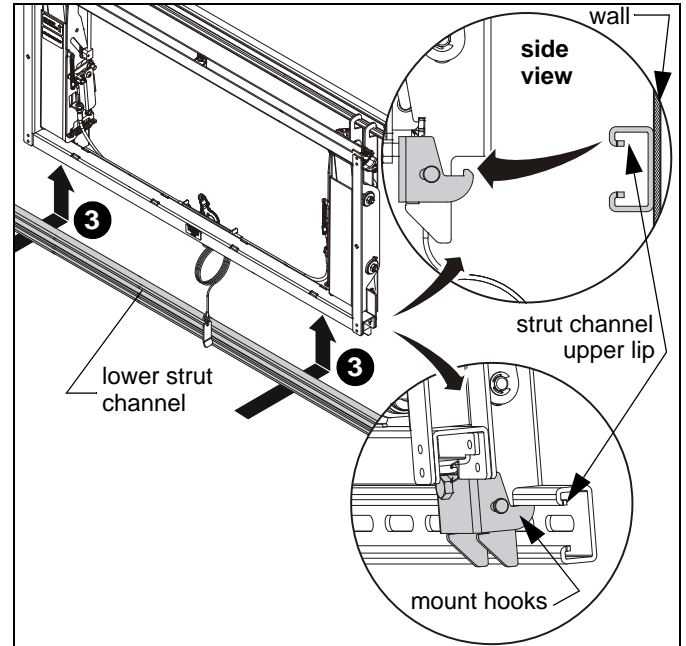

Figure 10
3. **LVSXUP only:** Add lower strut channel to bottom of all mounts in row by lifting strut channel up from below mounts and setting upper lip of strut channel onto mounts' latching hooks. (See Figure 10)